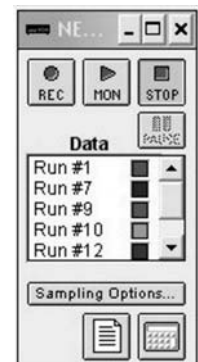

Fig. 7 The program SetUp window.
A force sensor is used in this experiment to measure the restoring force that drives the motion of the masspiece - see **figure 2**. It uses a strain gauge to measure the force. The sensor connects to a computer via an interface box - see **figures 5 and 6**. It can measure a push or a pull acting on it up to 50N. The sensor registers a downward pull as a negative force and an upward push on it as positive force. It can be zeroed by pushing the Tare button on the sensor. The Science Workshop program on the computer reads the sensor via the interface box when it is in either the **MON**itoring or **REC**ording mode - see **figure 7**.
cording (REC) mode - **figure 7**.
Use the monitoring mode - **MON figure 7** - of the program to measure the restoring force while you stretch the spring downwards by a known amount. The force values appear in the Digits display window. Calculate k in N/mm. Use the average of several measurements for your calculation. **STOP** the monitoring mode when you are done and remove the hanger from the spring.
- Recordings can be deleted by clicking on their runs - **figure 7** - and pressing the Delete key on the keyboard.